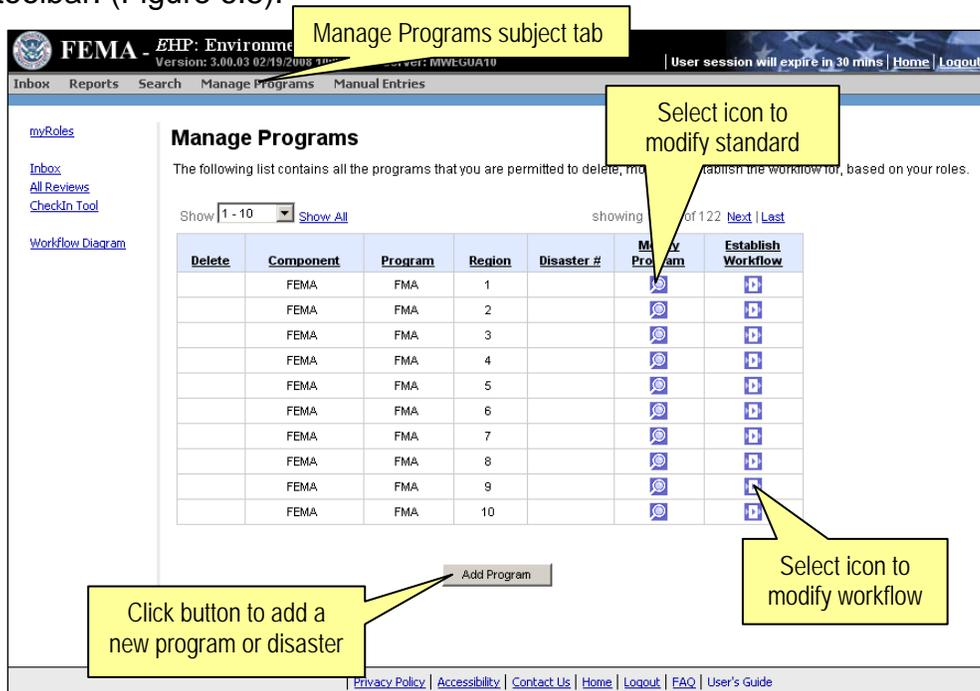

Figure 6.5: Managing Programs
To perform these administrative functions, select the **Manage Programs** tab on the top navigation toolbar. (Figure 6.5).
- From the *Manage Programs* screen, select the **Modify Program** icon next to the desired program name or disaster number (Figure 6.5).
- From the *Manage Programs* screen, select the  icon in the Establish Workflow column next to the desired program name or disaster number (Figure 6.5).
It is important to note that for disaster-based programs (i.e. Public Assistance), the Workflow and standard conditions may be established program-wide within a region, or established separately for each disaster event. To establish Workflow and set standard conditions for a particular disaster event, locate the disaster number on the Manage Programs screen. If the desired disaster number is not listed, it must be added using the Add Program button (Figure 6.5 and 6.9).